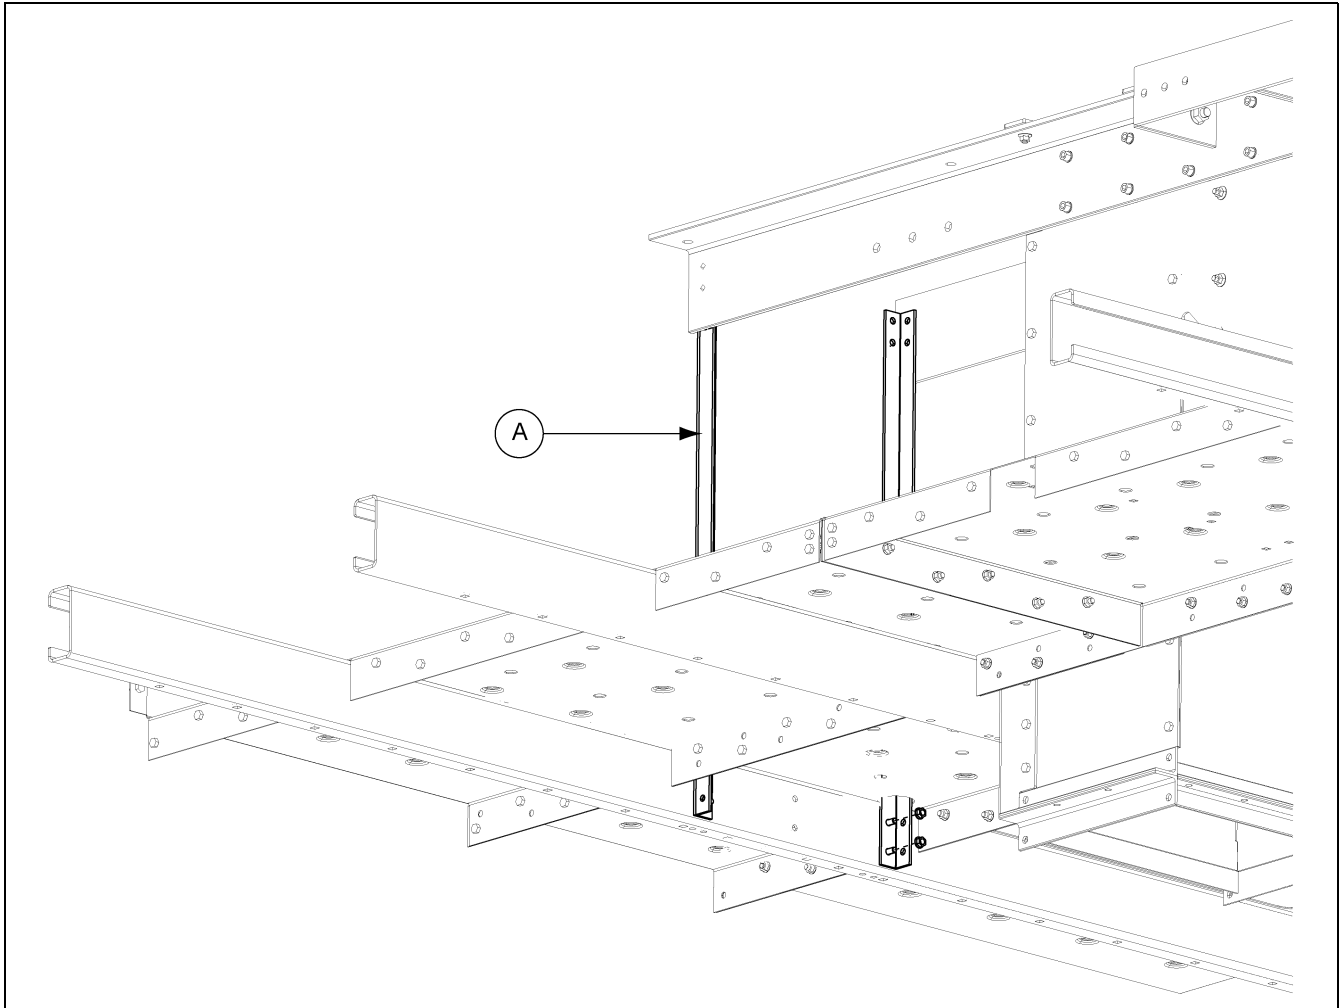

Figure 10B 36" Bearing Support Angle
1. Place two (2) head bearing angle supports (HP36HBS) (A) as shown in Figure 10B.